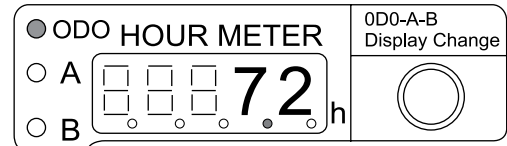

Figure 30. Hour Meter (Run Position)
- Next, verify that the ODO LED indicator is lit (**ON**) and the hour meter display (Figure 30) shows total machine hour used.